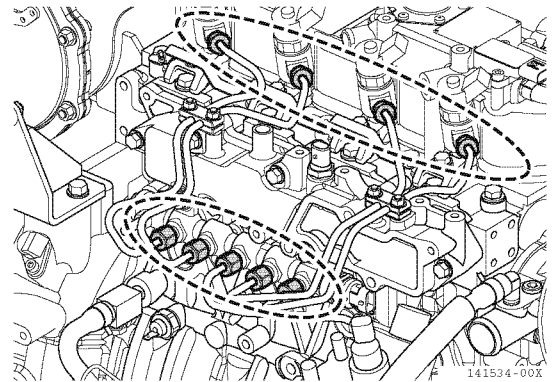

Figure 7-7
- 1- Clean around the cap nuts on both the injector and rail sides, using a brush or aspirator. (**Figure 7-7**)
- 3- Loosen the cap nut (1, **Figure 7-7**) of the high-pressure pipe on the common rail side in the same manner.